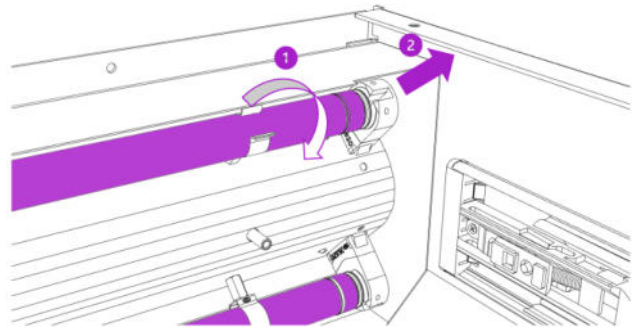

Fig. 17
- Turn the UV-C lamps in direction of arrow as shown in Fig. 17 (1) until you hear a clicking sound. Remove UV-C lamps in direction of arrow (2). Dispose of the UV-C lamps (see 7, page 30)